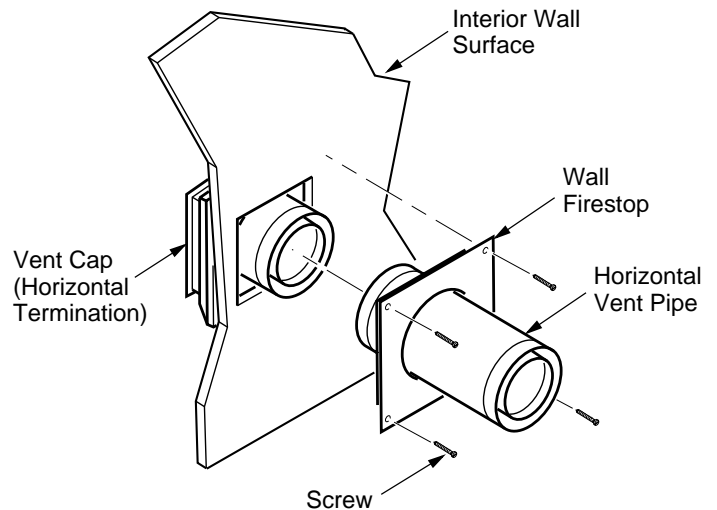
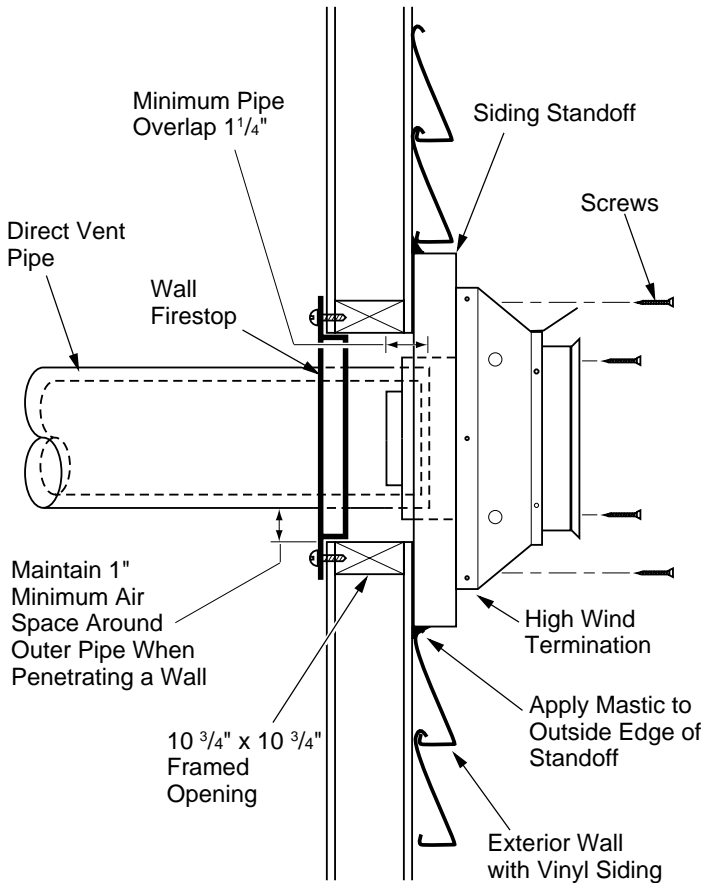

Figure 12 - Connecting Vent Cap with Horizontal Vent Pipe
Figure 13 - Typical Horizontal Termination Cap Mounting with Additional Siding Standoff Installed
7. **Combustible Exterior Wall Only:** Slide the wall firestop over the vent pipe before connecting horizontal run to vent cap (see Figure 12).
9. **Combustible Exterior Wall Only:** Slide wall firestop against interior wall surface and attach with screws provided (see Figure 12). See Figure 13, page 10, for horizontal termination details.